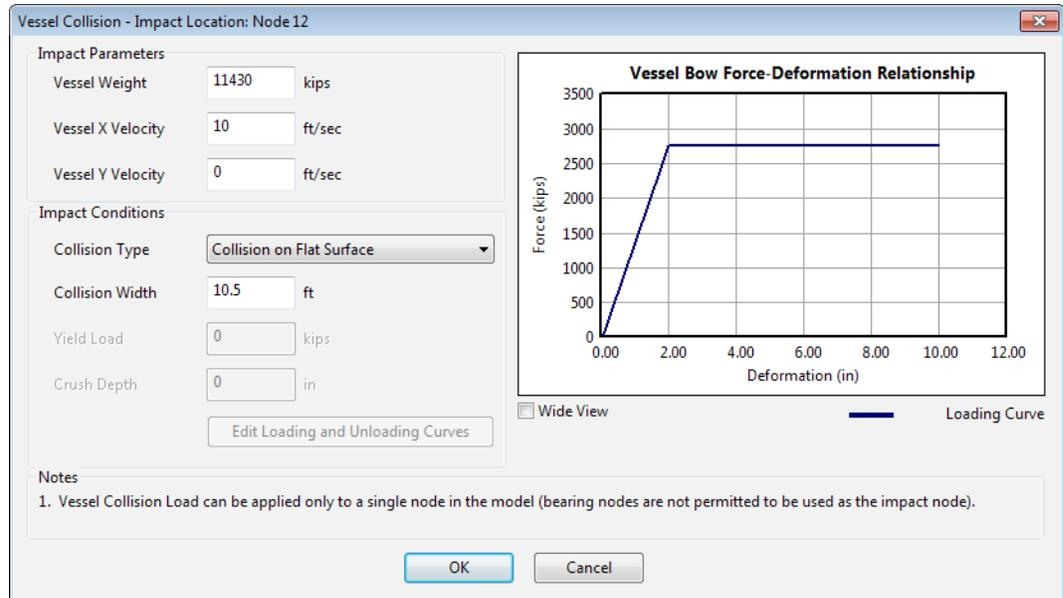

Figure 7 Definition of impact conditions.
5. Enter the vessel weight, velocity, and collision type (**Figure 7**). To model the stiffness of the vessel bow, a force-deformation curve can be automatically created (or user-defined, if so desired).